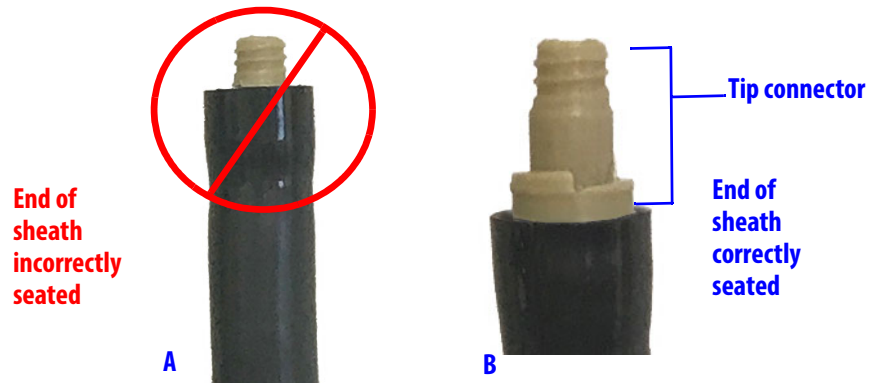
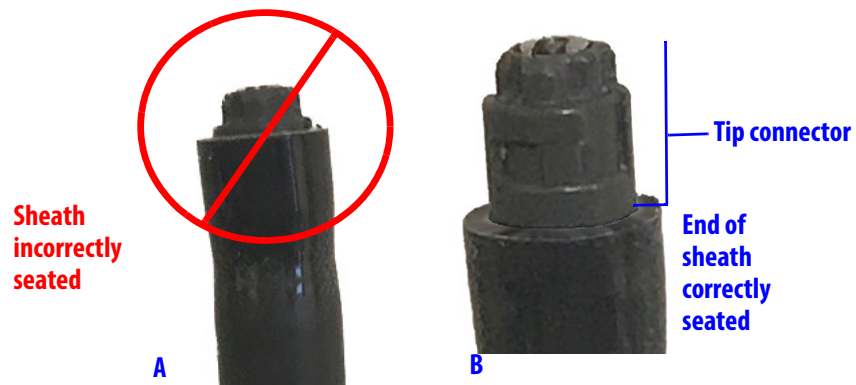

Figure 3.7 Instrument Sheath incorrectly (A) and correctly (B) installed on the Monopolar Cautery Instrument
Figure 3.8 Instrument Sheath incorrectly (A) and correctly (B) installed on the Monopolar Curved Scissors
- Confirm that the instrument tip connector is fully visible to ensure proper seating on the end of the sheath (Figure 3.7 B and Figure 3.8 B).